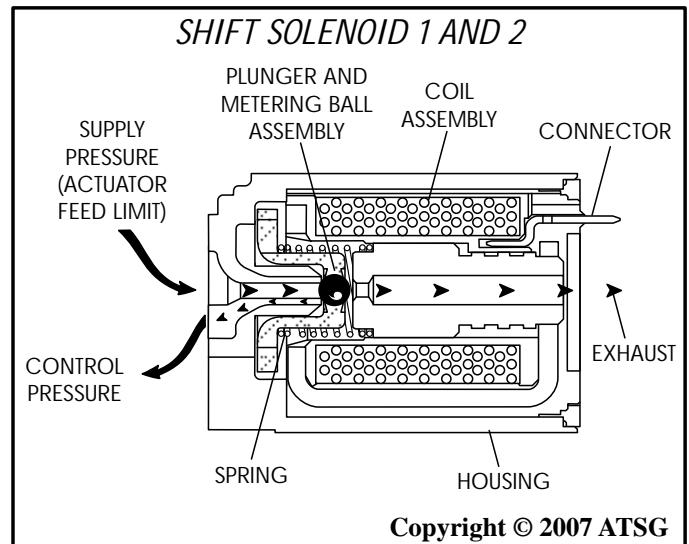

Figure 10
When the TCM provides a path to ground for the electrical circuit to energize (Turn ON) the solenoid, current flows through the coil assembly in the solenoid and creates a magnetic field. The magnetic field moves the plunger and metering ball assembly to the right, as shown in Figure 10, against the exhaust seat, thereby blocking the exhaust passage and creating solenoid control pressure.
Shift solenoids are de-energized (Turned OFF) when the TCM opens the path to ground for the solenoid's electrical circuit. With the solenoid OFF, solenoid spring force moves the plunger and metering ball assembly to the left, as shown in Figure 10, away from the exhaust seat and against the feed seat. This blocks actuator feed limit fluid from entering the solenoid and allows any existing solenoid control pressure to exhaust through the solenoid.
Actuator feed limit fluid feeds the shift solenoid 1 fluid circuit to control clutch select valve 2. When shift solenoid 1 is energized (ON), actuator feed limit fluid is allowed to pass through the solenoid, thereby creating solenoid 1 control pressure, as shown in Figure 10. Solenoid 1 control pressure acts against clutch select valve 2 spring force, to move the valve to the apply position.
When shift solenoid 1 is de-energized (OFF), actuator feed limit fluid is blocked from feeding the solenoid 1 circuit, and any existing solenoid 1 control pressure exhausts through the solenoid, as shown in Figure 10.
Actuator feed limit fluid feeds the shift solenoid 2 fluid circuit to control clutch select valve 3. When shift solenoid 2 is energized (ON), actuator feed limit fluid is allowed to pass through the solenoid, thereby creating solenoid 2 control pressure, as shown in Figure 10. Solenoid 2 control pressure acts against clutch select valve 3 spring force, to move the valve to the apply position.
When shift solenoid 2 is de-energized (OFF), actuator feed limit fluid is blocked from feeding the solenoid 2 circuit, and any existing solenoid 2 control pressure exhausts through the solenoid, as shown in Figure 10.